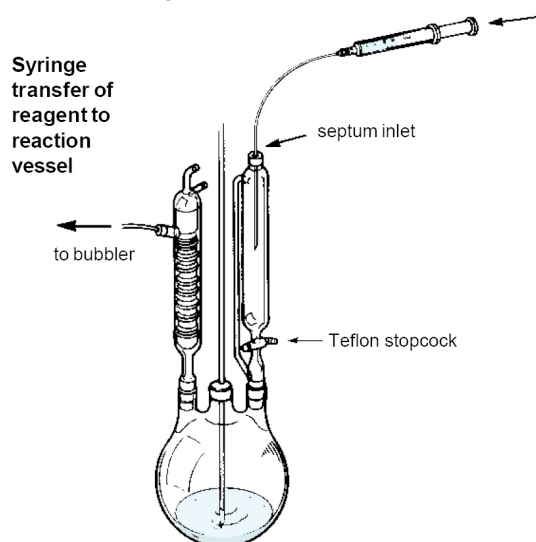

Fig. 2C Syringe transfer of reagent to reaction vessel
- The desired volume of reagent in the syringe is quickly transferred to the reaction apparatus by puncturing a rubber septum as illustrated in Fig. 2C.